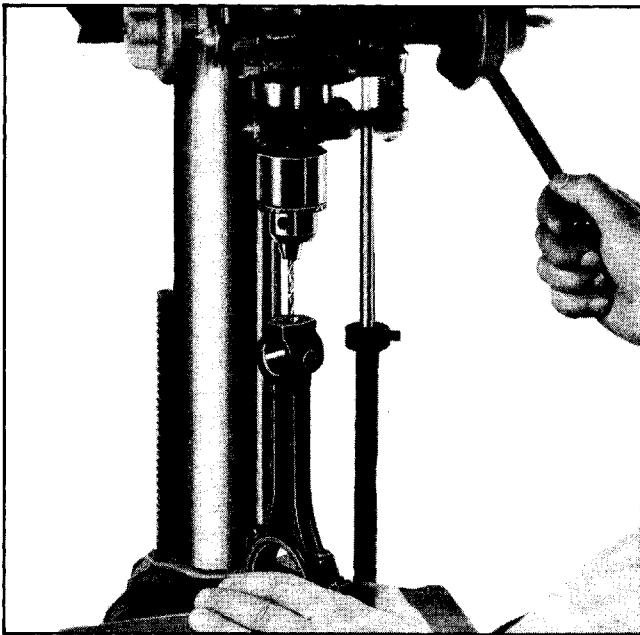

Fig. 6-62 Drilling Oil Hole in Connecting Rod Bushing
3. Drill  $\frac{5}{32}$ " hole in bushing (Fig. 6-62). NOTE: Use care to prevent end of drill from damaging opposite side of bushing.